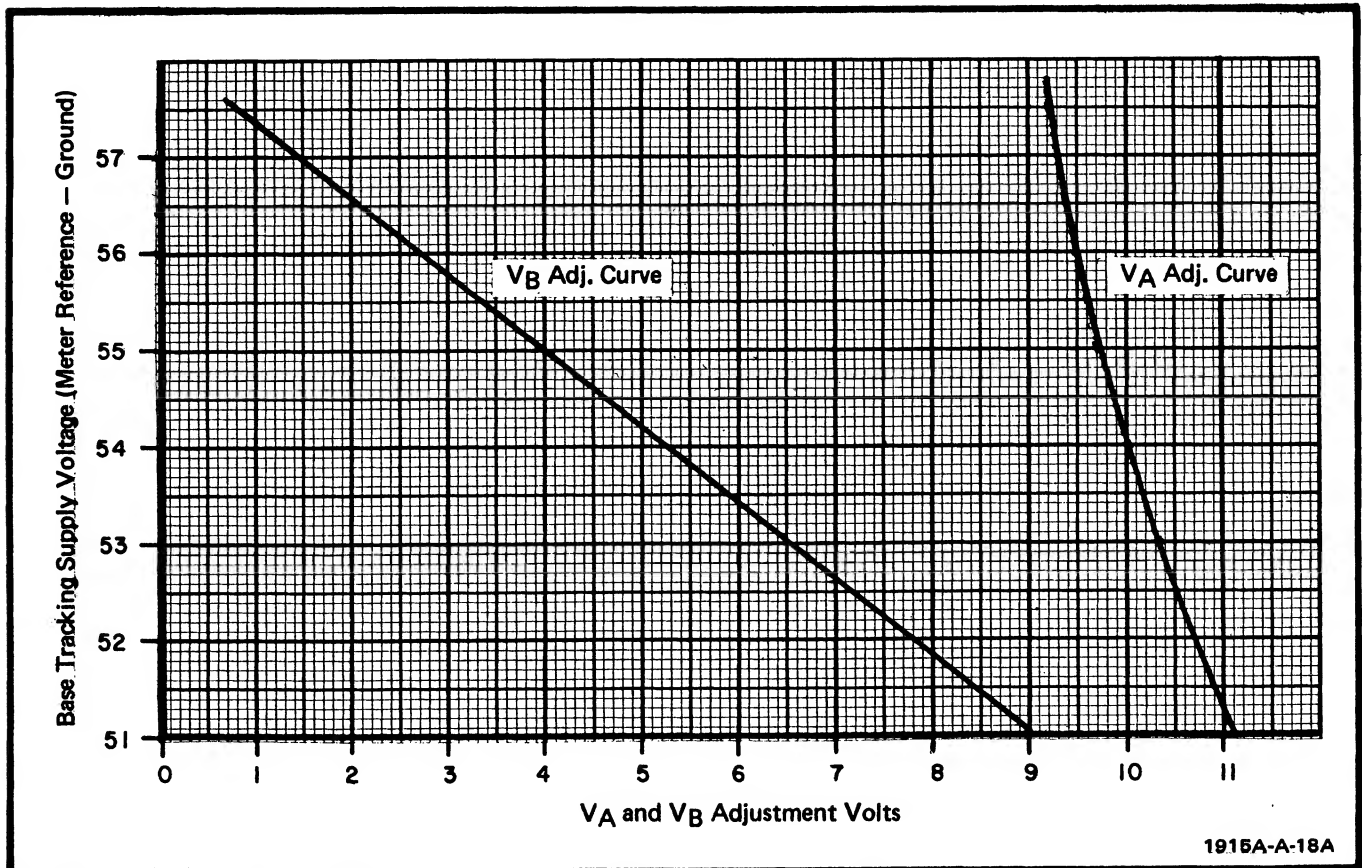

Figure 5-14. Overload Voltage Locator and Adjustment
m. Using Figure 5-14, find the voltage noted in step l on the vertical axis (Base Tracking Supply Voltage). Locate V_A and V_B at intersection with noted voltage.